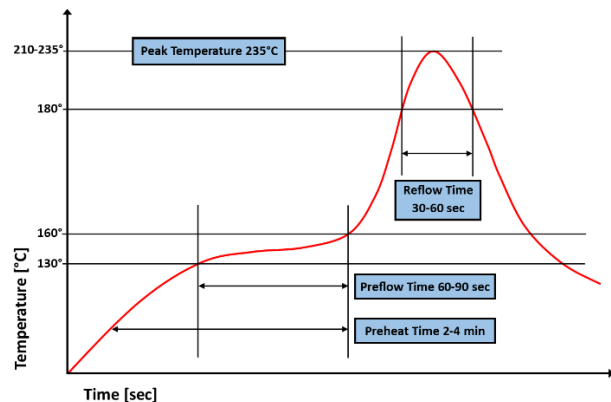

**Figure 4: Component Placement**
**Component Positioning:** The surface mount component can be placed manually or with automatic pick and place mechanisms. Couplers should be placed (see Figure 4 and 5) onto wet paste with common surface mount techniques and parameters. Pick and place systems must supply adequate vacuum to hold a 0.01 gram coupler.